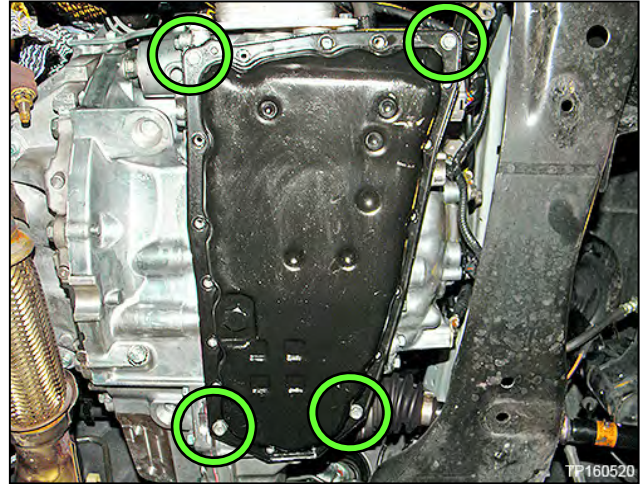

Figure 28
10. Temporarily install the oil pan gasket and oil pan with four oil pan bolts to corners of the oil pan, hand tight (Figure 28).